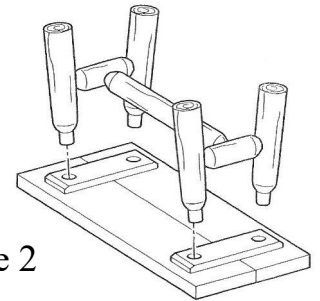

Figure 2
STEP 2 Place the bench top on a clean flat surface. Align the doweled ends of the leg assembly with the holes in the bench top as shown in figure 2.